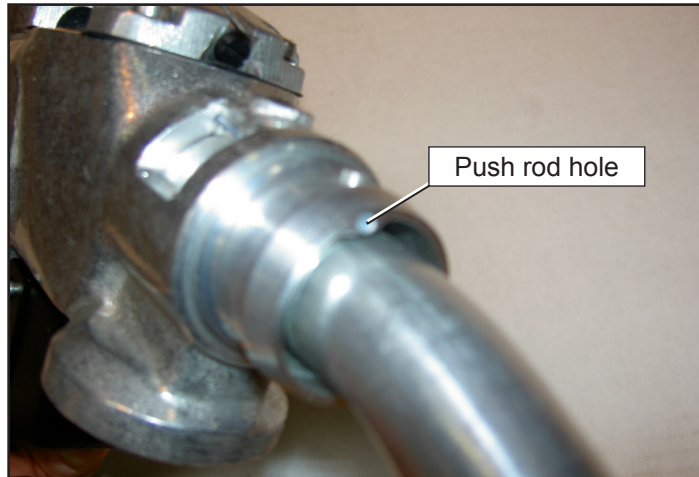

Figure 6: Push Rod Hole Location
1. Align the push rod extending from the nozzle end of the nozzle Model 709 boot assembly with the 1/16" hole in the spout body while also aligning the 3/16" hole in the hose clamp groove with the 3/16" pin on the spout body Figure 6.